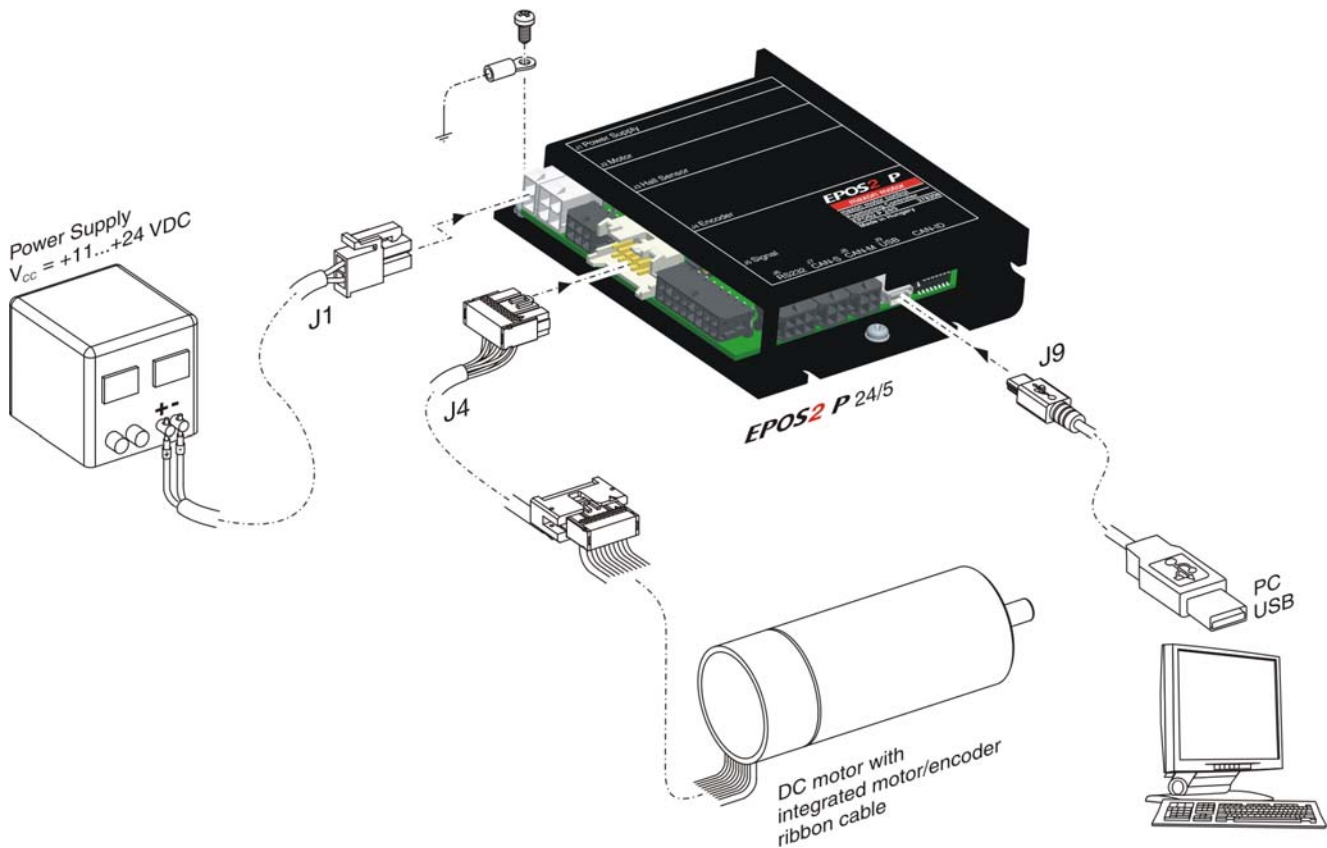

Figure 3-6 Minimum Wiring: maxon DC motor with integrated Motor/Encoder Ribbon Cable
- 2) Connect maxon cable assemblies (→ Table 3-6 and Figure 3-6).